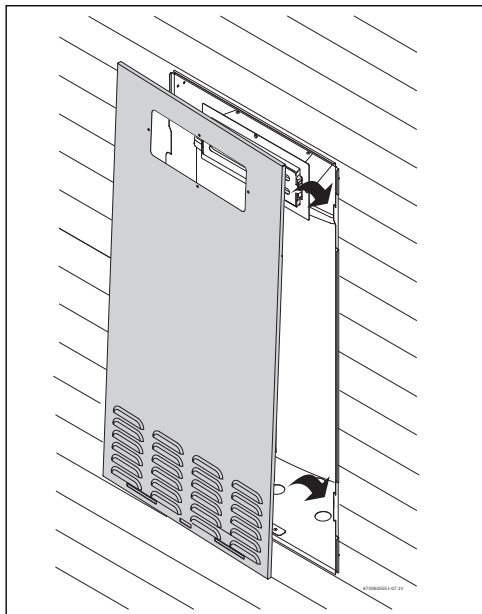

Fig. 19
- ▶ Position the recess box cover as showed in Fig. 19.